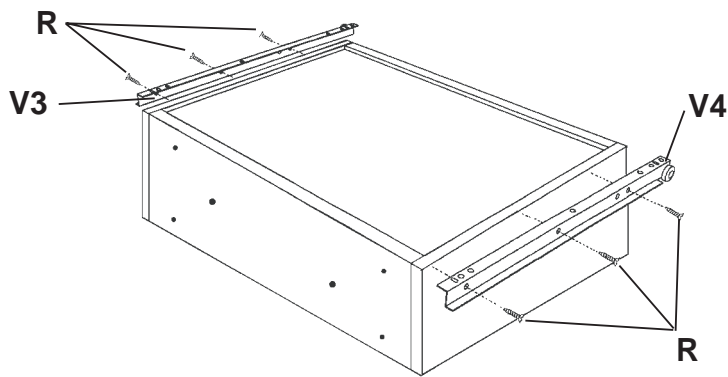

Fig. 8
8. Using three #6 x 5/8" Undercut (type 17) Screws (R), attach the Drawer Slides (Drawer Side Left) (V4) and (Drawer Side Right) (V3) to the drawers. Place the wheels to the rear and align the front edge flush to the drawer side. The slides will extend beyond the back of the drawer. See Figure 8.